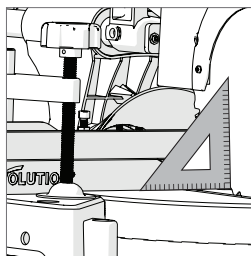

Fig. 13
- Place the Set Square on the table with one short edge against the table and the other short edge against the blade (avoiding the TCT tips). **(Fig. 13)**